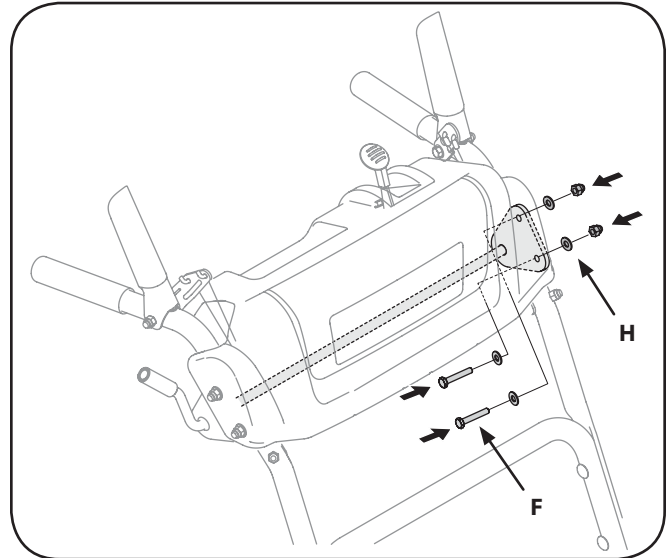

Figure 7
2. Position the rod assembly [C] between the metal panel and the plastic panel cover while aligning holes in rod assembly with holes in the panels and securing with the following hardware. See Fig. 7: